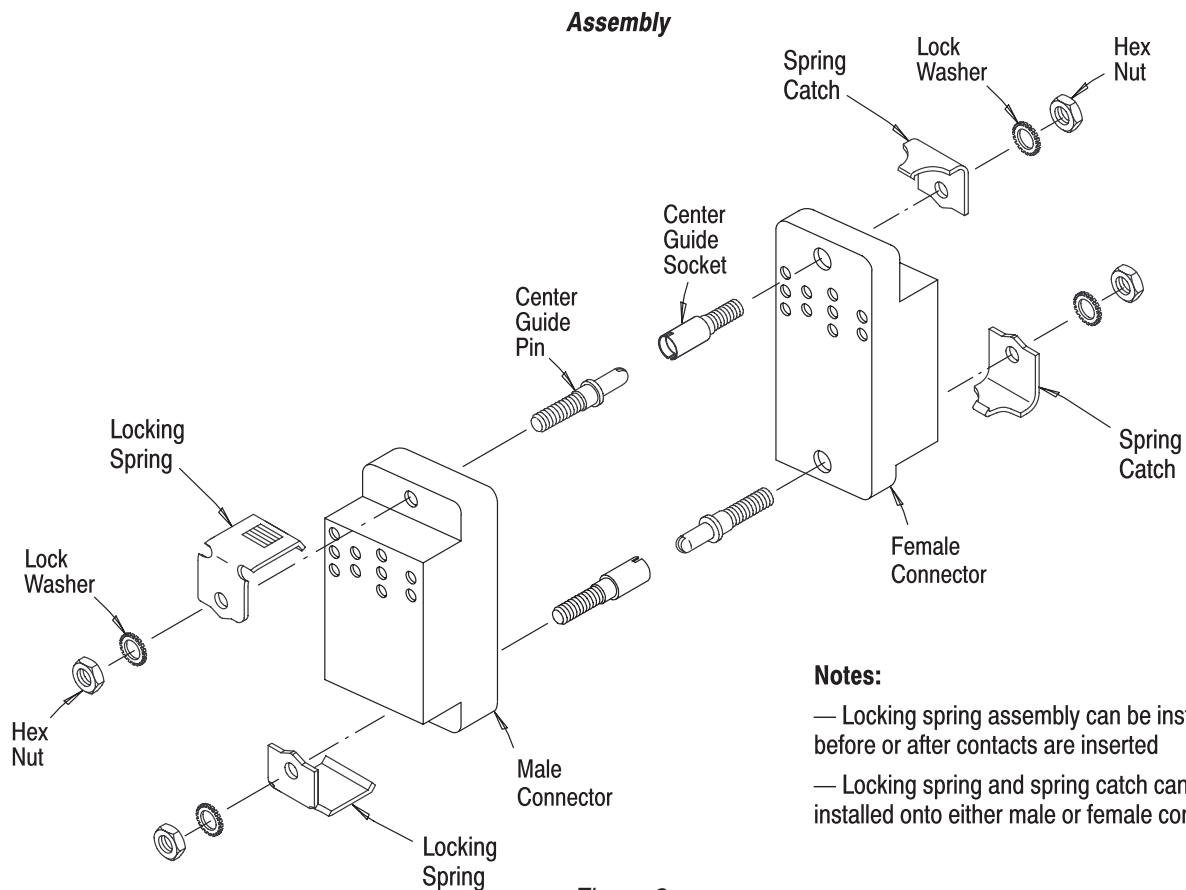

Figure 2
### 3. ASSEMBLY PROCEDURE (See Figure 2)
- Added notes to Figure 2